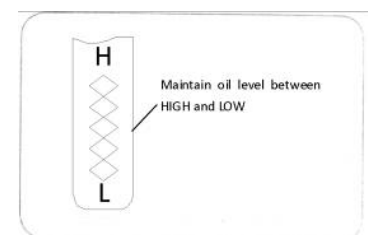

Figure 29
4. Unscrew and remove oil fill cap from oil filler tube. Note oil level. if oil reading on dipstick is below“**LOW**” mark, slowly add oil to reach“**HIGH**”level, see Figure 29.